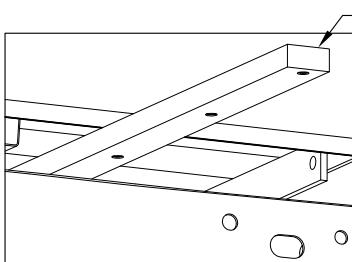
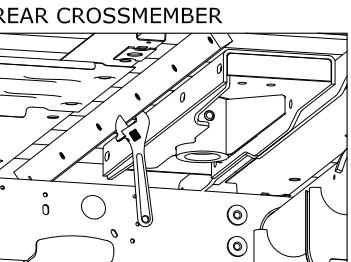

FIGURE B7: Rear Cross Member
FIGURE B8: Rear Cross Member
**3. Place the rear cross member (1" X 2" bar).** Slide the cross member between the bed and the frame just rearward of the center section until it spans both frame rails, see figure B7. The holes in the crossmember are closer to one edge than the other. Rotate the cross member  $\frac{1}{4}$  turn so that the holes are closest to the bottom of the cross member. The narrow space between the bed and the frame will make it difficult to rotate the cross member. Rotation of the cross member can be made easier by using an adjustable wrench for leverage, see figure B8.